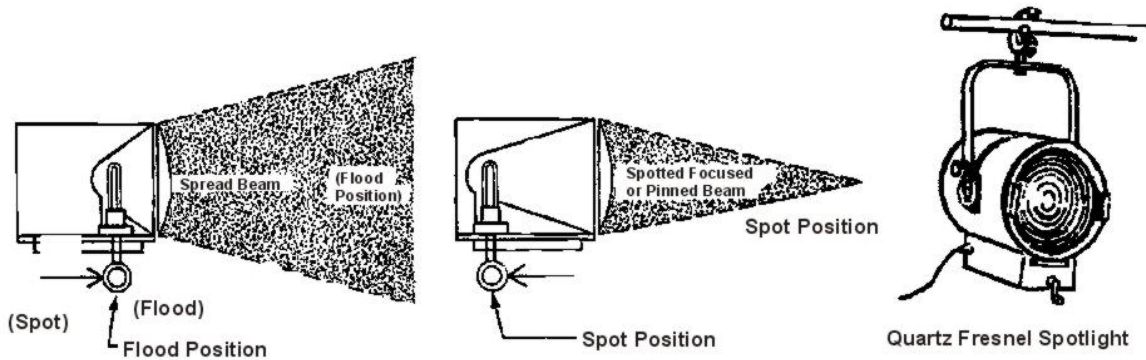
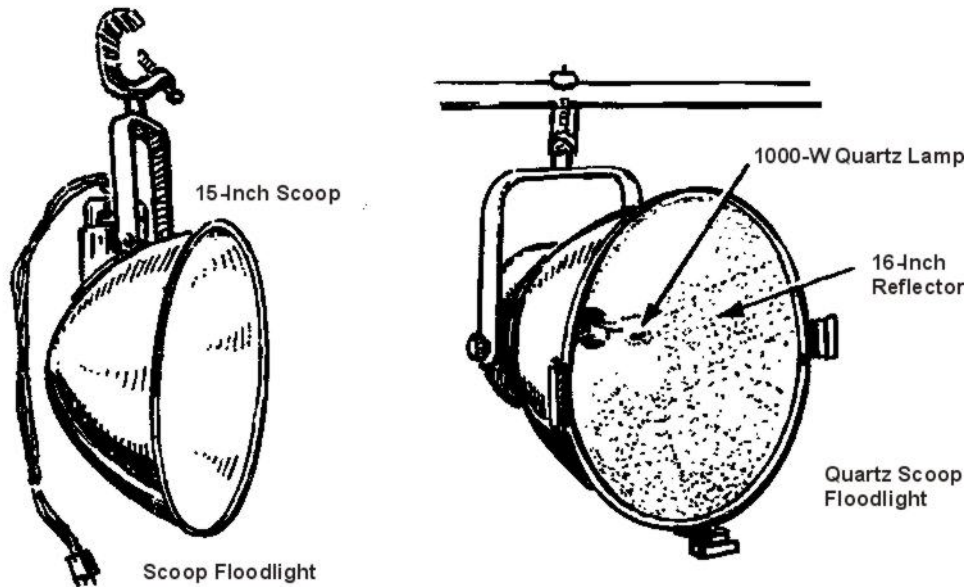

Figure I-8. Spots Used for Key and Backlights
Figure I-9. Scoop Lights Used for Fill Lights
f. There are many types of lights available for studio or remote lighting requirements. Figure I-8 shows types of spots used for key and backlights, and Figure I-9 shows typical scoop lights used for fill lights.
(1) The fresnel spotlight is by far the most common and most widely used spotlight in the television studio. This type of spotlight uses a glass lens in front of the housing. The glass lens consists of concentric grooves or steps on its front surface, which forms the light into a soft-edged beam as shown in Figure I-8. Within the Fresnel spotlight, the lamp and reflector position are adjusted by a crank and screw system. This allows the light beam to be made broad or narrow as desired.
(1) The most common and popular type of floodlight used is known as the scoop because of its shape (Figure I-9). A very versatile lighting instrument can hold colored gels. These gels are used to change the color of the light, or scrims, which are used to further diffuse the light and reduce its intensity.
(2) Another type of floodlight, which acts as a series of scoops, is known as the broad. Broads illuminate a large area evenly with diffused light. When using broads for fill light, it is usually possible to adjust the beam of light either using barn doors or with an adjustable beam, something like the Fresnel spot.
(3) The last type of studio floodlight we will discuss is the strip or "cyc" light. This type of lighting instrument is used to achieve even illumination of large set areas. The strip light consists of rows of three to twelve incandescent or quartz lamps mounted in long, boxlike reflectors. Strip lights are often used for silhouette lighting when the background must be evenly illuminated, while foreground set pieces remain unlit.